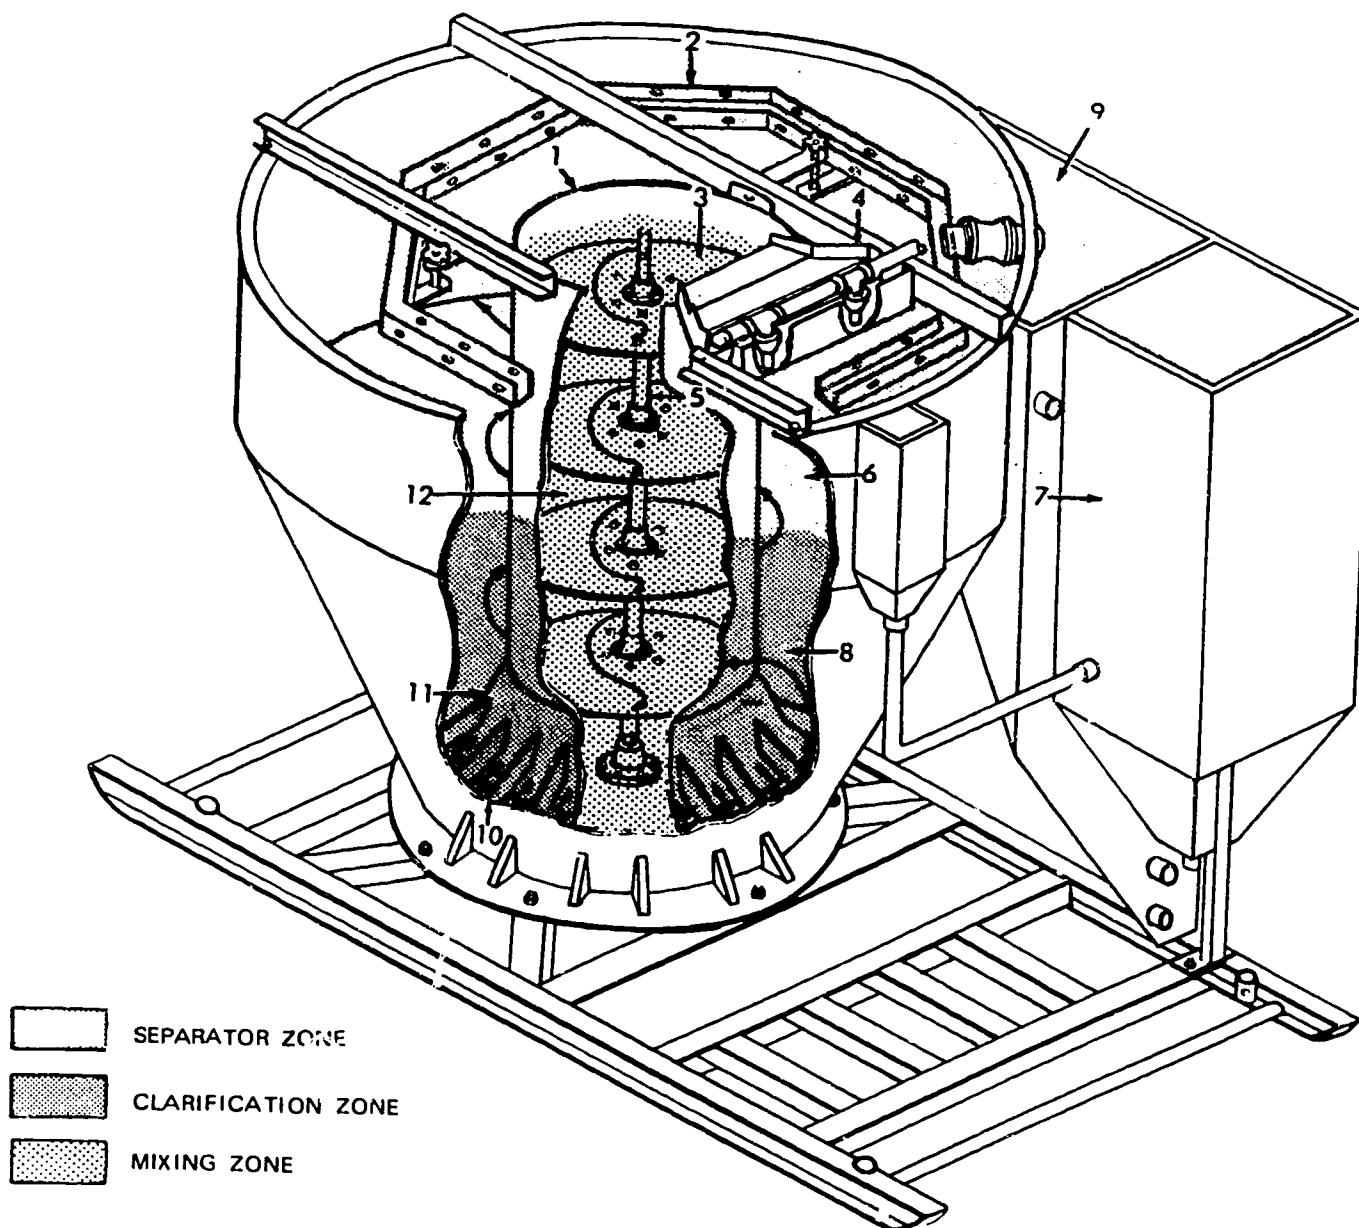

Figure 5-4. Cross section of erdlator.
Erdlator Assembly. The erdlator assembly (cross section in fig. 5-4) reduces the organic and suspended matter content of the water and produces an effluent suitable for application to the diatomite filter. Raw water is introduced to the influent launder (4) at the top of the erdlator tank through the aspirators; this action aerates the raw water. The water overflows from the influent launder to the mixing zone (12) where it is thoroughly mixed with ferric chloride, pulverized limestone, calcium hypochlorite and, when necessary, activated carbon. As